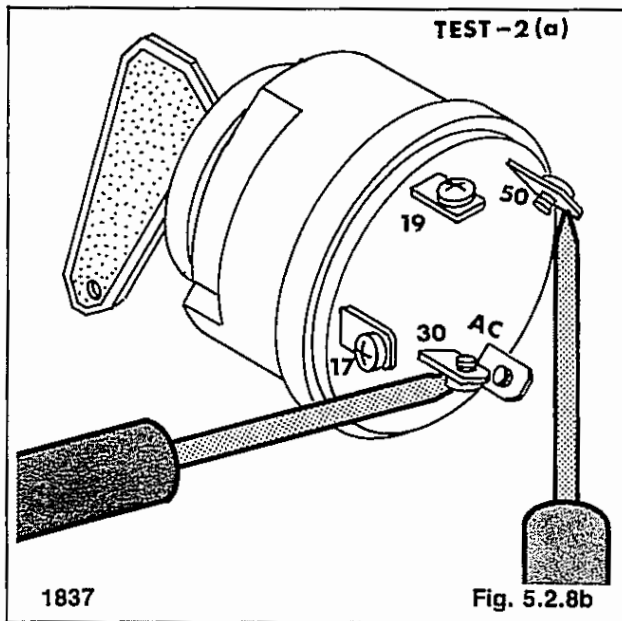

Fig. 5.2.8b
(A) Connect the ohmmeter leads between the terminals marked 30 and 50 on the key switch (Fig. 5.2.8b).